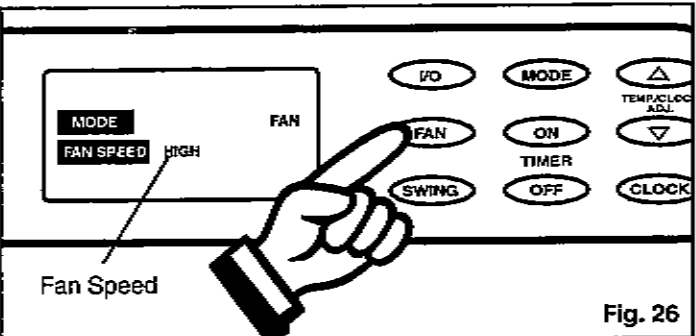

Fig. 26
- 3) Press the **FAN** key to select the desired **FAN SPEED** setting. *Fig. 26*. Your selection will be displayed in the **LCD** window. Each depression of the fan key will advance to a different speed (**High-Med-Low**).